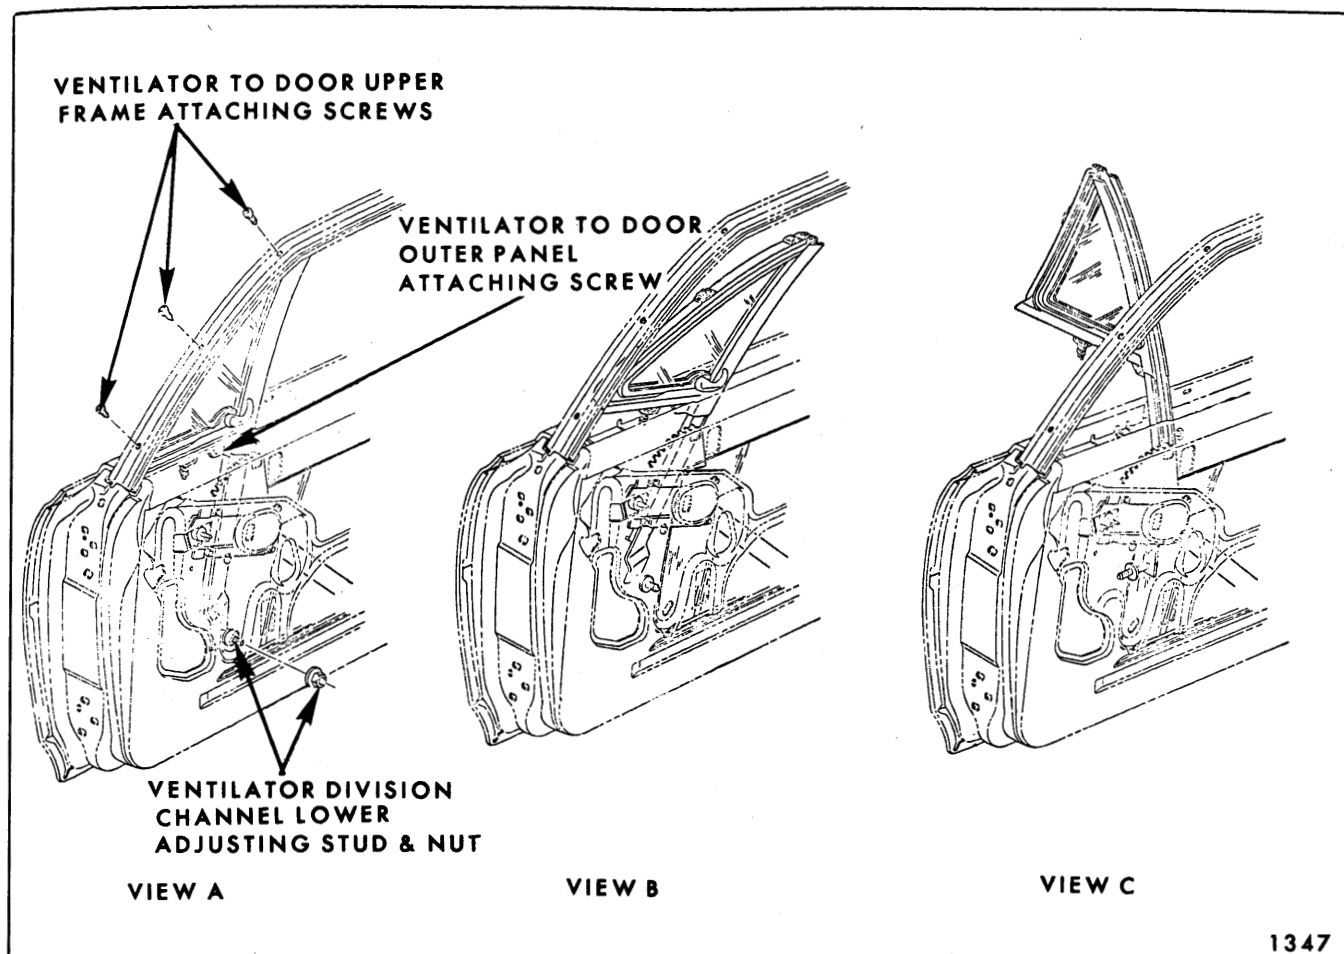

Fig. 7-69—Front Door Ventilator Removal
8. Lift ventilator rearward and upward until lower forward corner of assembly is free of door upper frame (see View "B" in Fig. 7-69).
9. On "A" Styles, rotate ventilator assembly in an outboard movement and remove unit outboard of door upper frame (see View "C" in Fig. 7-69).
adjusting stud and nut by loosening attaching nut and sliding nut in slot provided (see Fig. 7-69). The division channel can also be positioned in or out by loosening nut and turning stud in or out as required and tightening nut.